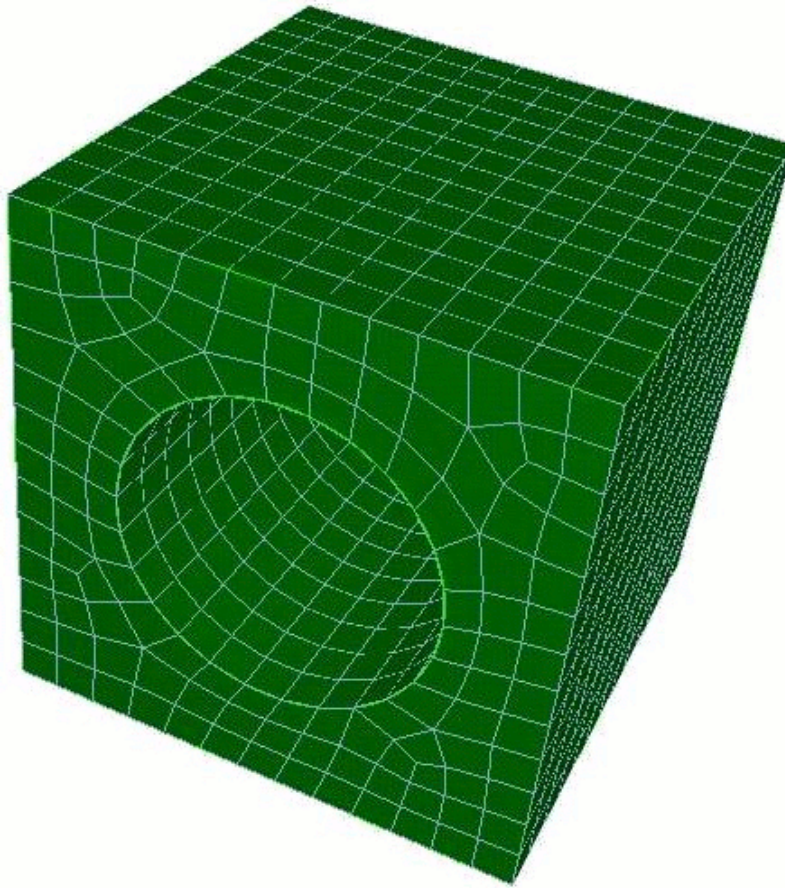

Figure 2: The starting mesh
Step 1: Create a starting mesh. Figure 2 below shows the starting mesh for this problem. The commands for this mesh are: